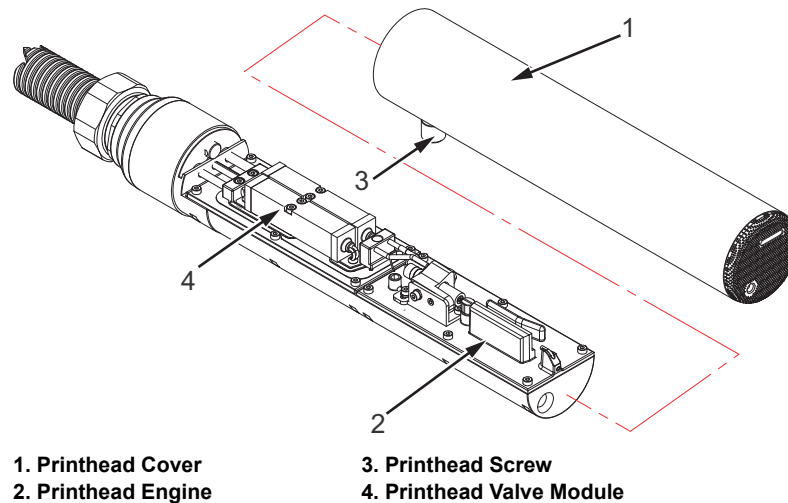

Figure 3-37: Printhead
The printhead cover (item 1, Figure 3-37) is attached to the printhead with a printhead screw (item 3). The cover protects the printhead components. Removal of the cover is sensed by the printer through the cover switch. When the cover is removed the voltage to the deflector electrodes is turned off.